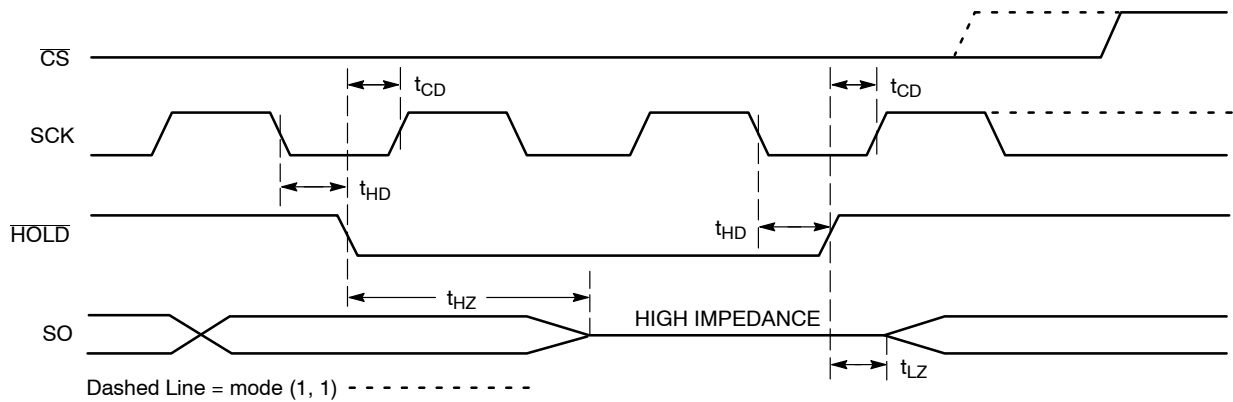

Figure 10.  $\overline{\text{HOLD}}$  Timing
The  $\overline{\text{HOLD}}$  input can be used to pause communication between host and NV250x0. To pause,  $\overline{\text{HOLD}}$  must be taken low while SCK is low (Figure 10). During the hold condition the device must remain selected ( $\overline{\text{CS}}$  low). During the pause, the data output pin (SO) is tri-stated (high impedance) and SI transitions are ignored. To resume communication,  $\overline{\text{HOLD}}$  must be taken high while SCK is low.